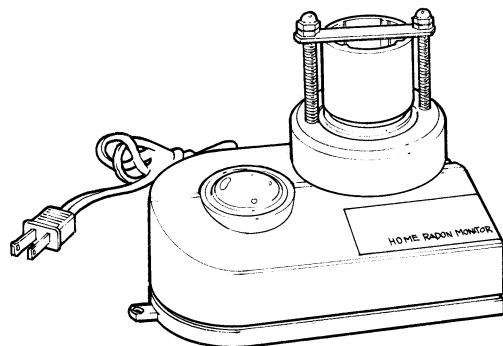

Figure 6: Active alpha-track detector
- **Active Alpha-Track Detectors** – This type of detector is similar to a passive alpha-track detector. However, it offers more accurate measurement by using a small electric air pump (see **figure 6**). Active alpha-track detectors are usually used to measure radon for periods of one week to about two months.